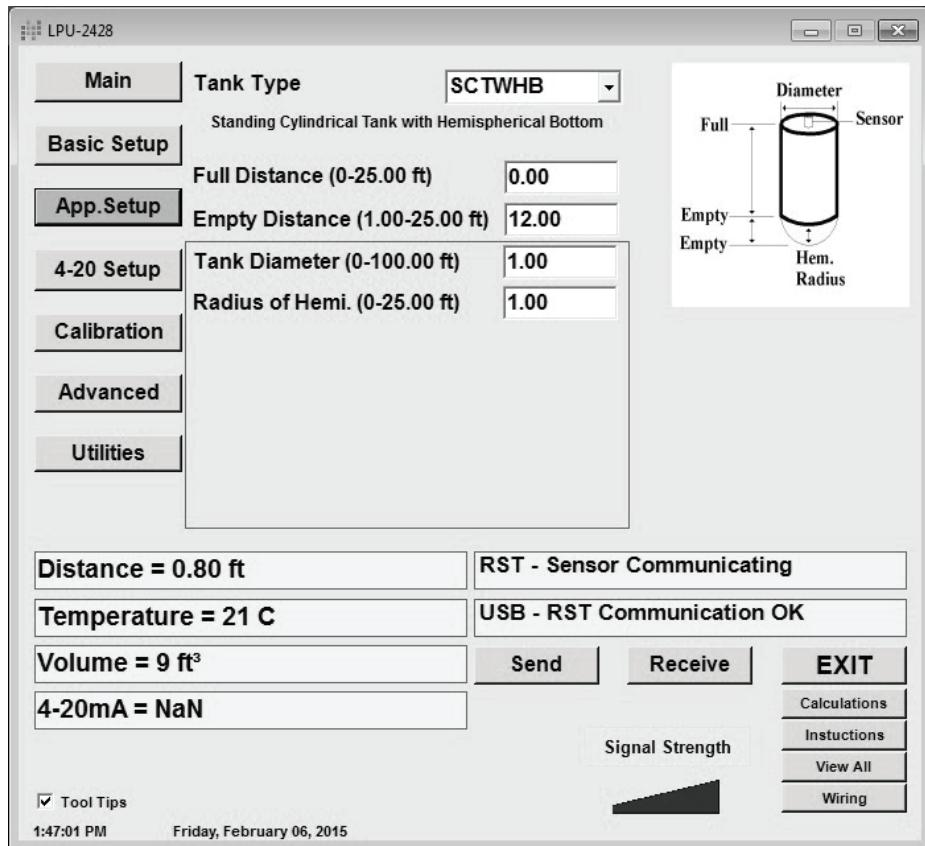

Figure 4.7
*Tank Diameter (*T Diamet* on the RST-4001) sets the diameter of cylindrical (SCTWHB, SCTWCB, HCT) or spherical (ST) tank. (See Figures 4.7, 4.8, 4.10, and 4.11)*
Radius of Hemi (Rad Hemi on the RST-4001) sets the radius of the hemisphere on the bottom (SCTWHB) or end (HCT) of a standing or horizontal cylindrical tank. (See Figures 4.7 and 4.10)